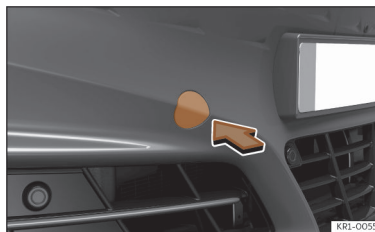

Fig. 187 Front bumper on right: remove the lid.
The housing of the removable towline anchorage is on the right side of the front bumper underneath a cover >>> **Fig. 187**.
- Remove the cover by pressing down on its base and leave it hanging from the vehicle >>> Fig. 187.